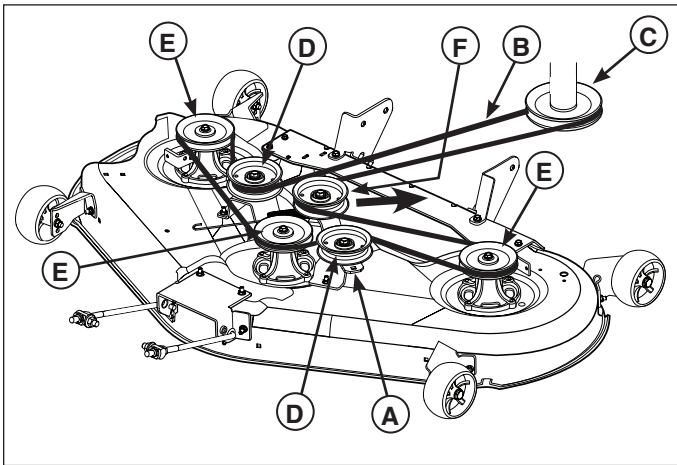

Figure 17. Mower Belt Routing
3. Pull back on the tensioning idler (F, Figure 17) in the direction indicated by the arrow, and remove the mower belt from the PTO pulley (C).
6. Pull back on the tensioning idler (D, Figure 17) in the direction indicated, and install the belt onto the PTO pulley as shown in Figure 17.